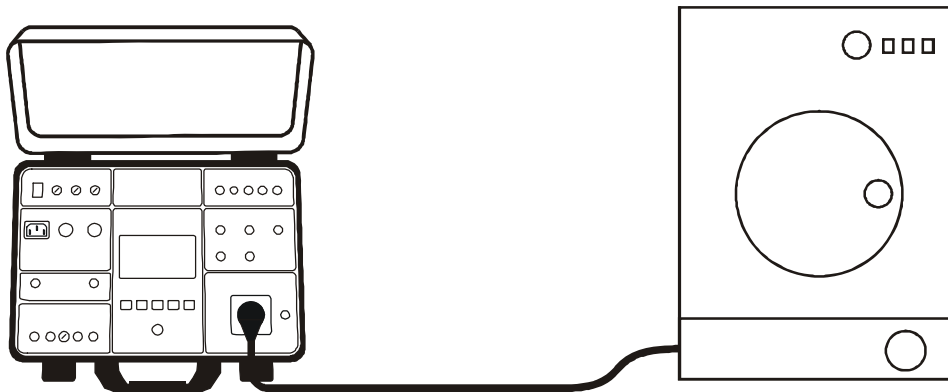

Figure 38: Connection of UUT to schuko test socket
- 3) Carry out the measurement by pressing the **START** button. The measurement will be done and test result will be displayed in green colour equipped with green symbol and with beep-beep sound if it is in accordance with referential direction (1.2.3.). If the result is not in accordance with referential direction (2.1.3.) then it will be displayed in red colour equipped with red symbol and with longer beep sound. See the display outlook with test result on the figure 38.